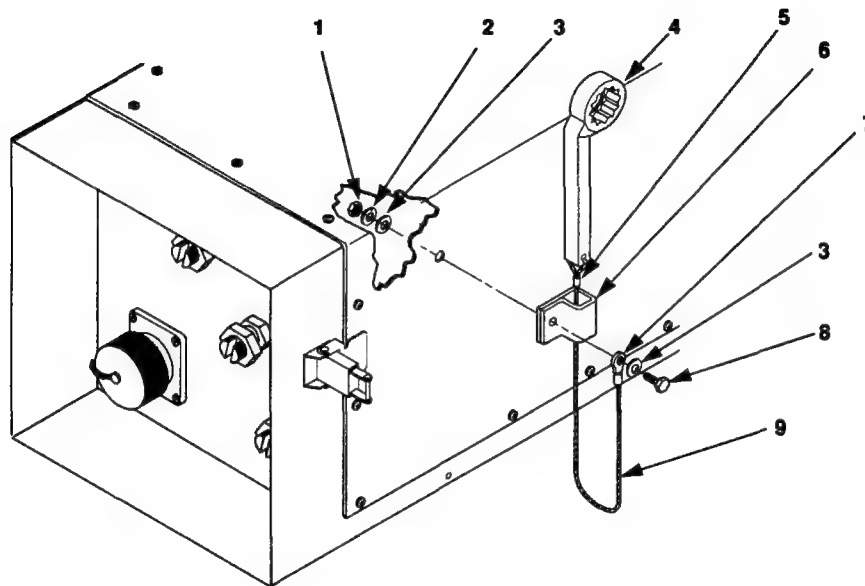

Figure 4-10. Switch Box Load Terminal Wrench Assembly Replacement.
2. Remove nut (1 figure 4-10), lock washer (2), and flat washer (3). Discard lock washer.
3. Remove screw (8), flat washer (3), loop clamp (6), and box wrench (4) with attached rope (9).
1. Place the loop clamp (6) so that mounting holes are in alignment with switch box cover holes.
2. Drop terminal lug end of rope (9) with box wrench (4) through loop clamp (6) as shown in figure 4-10.
3. Install screw (8), two flat washers (3), one terminal lug (7), new lock washer (2), and nut (1) that secures loop clamp (6) to switch box cover.